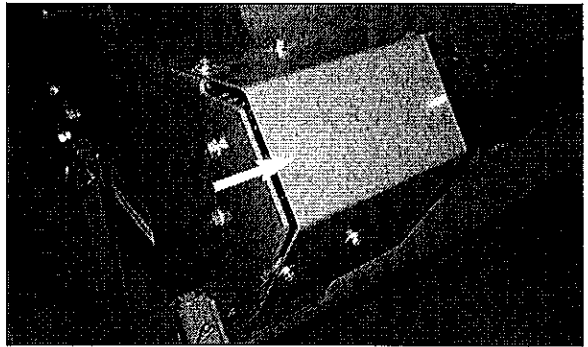
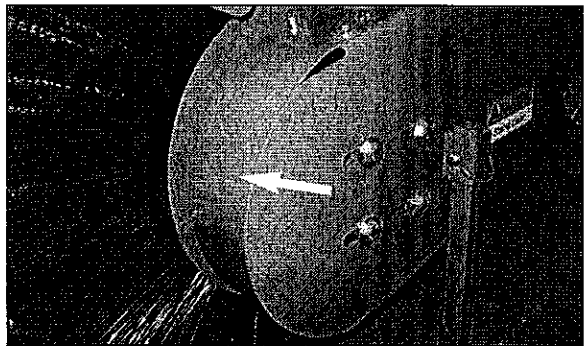

Figure 27
Figure 28
1. Remove front (Figure 27) and rear (Figure 28) chain shields from the fixed chain shield.
2. Remove front (Figure 28) and rear (Figure 27) chain shields.